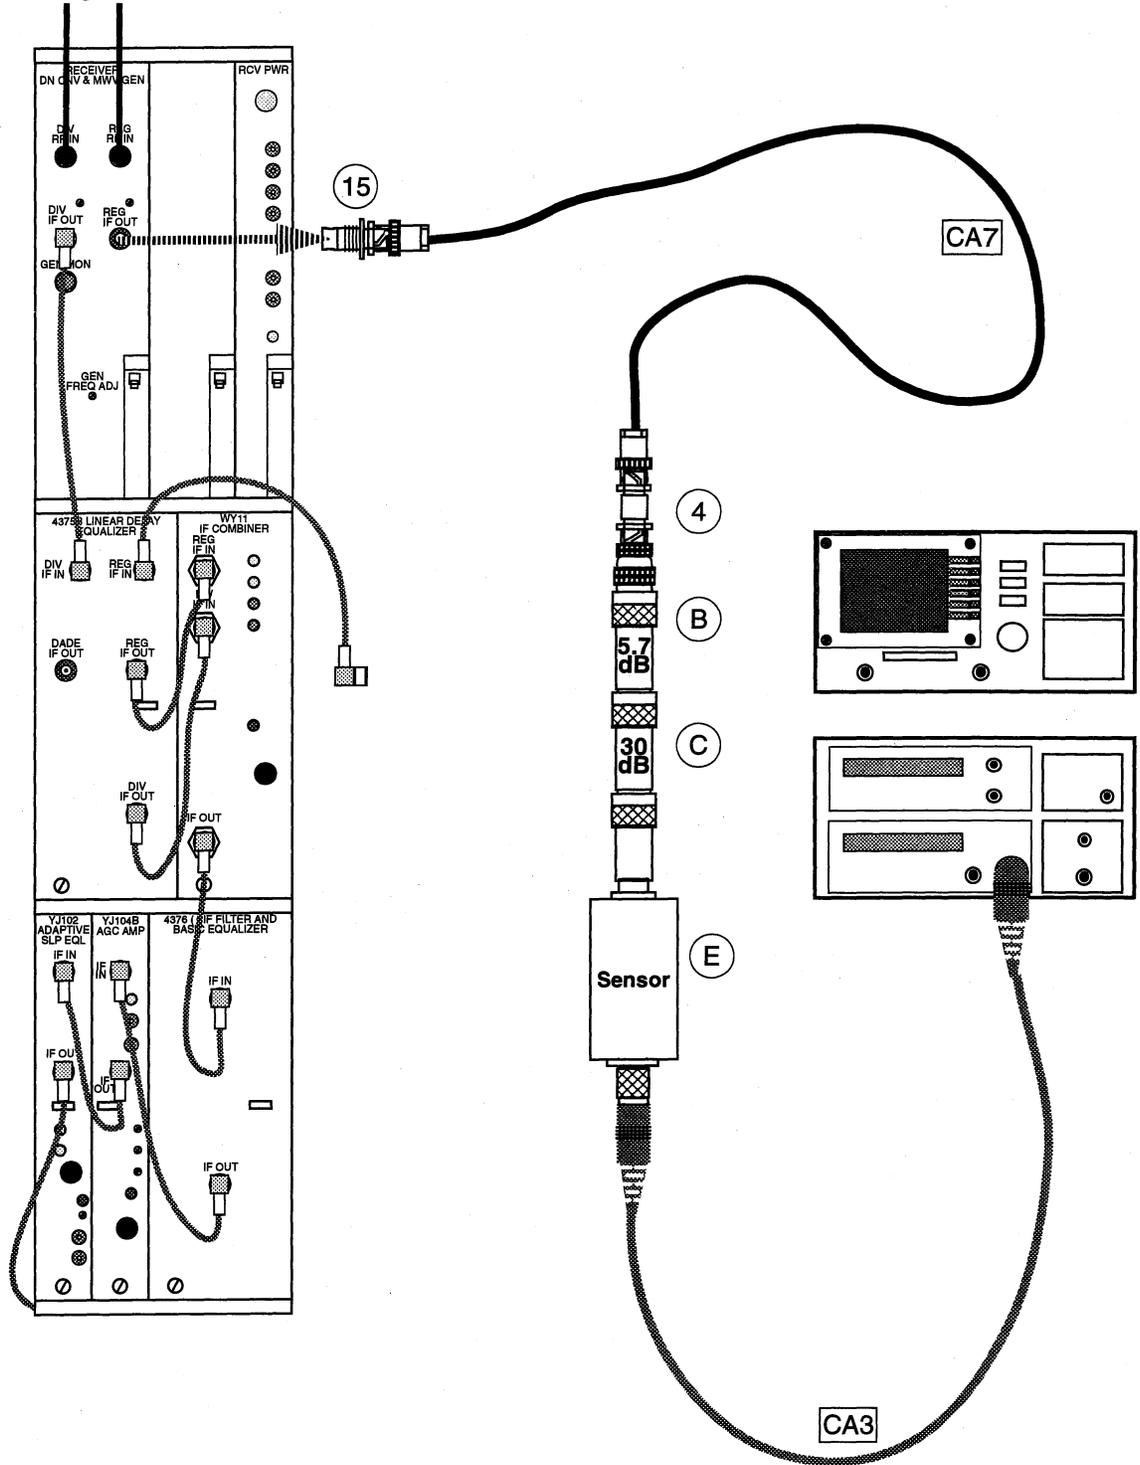

Figure 6. Down-Converter IF OUT Level (ANT DIV)
- a. Remove the bay cable and connect the power meter to the REG IF OUT jack as shown in Figure 6.